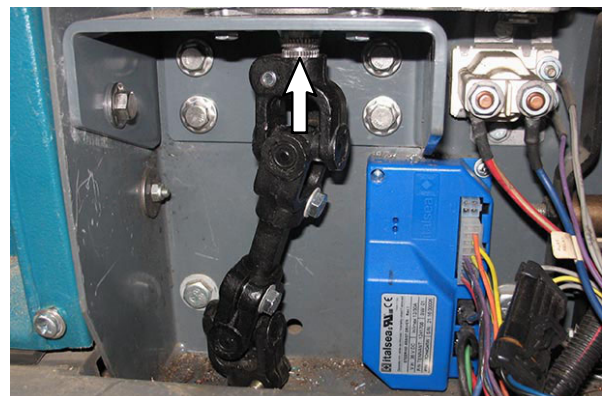

FIG. 16
9. Install the lower power steering shaft onto the power steering motor (4) bottom shaft. (Fig. 16)